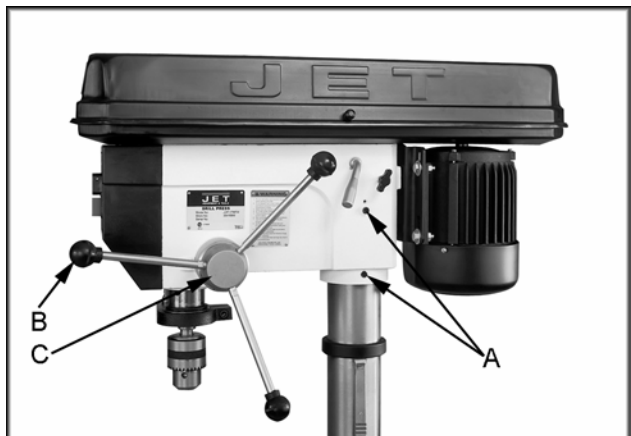

Fig. 4
11. Tighten two set screws (A, Fig. 4) with a 5mm wrench until they are snug.
12. Install three down feed handles (B, Fig. 4) into the down feed hub (C, Fig. 4).